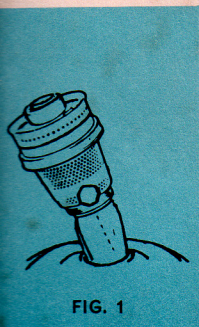
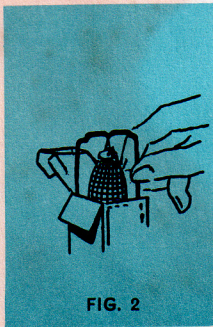
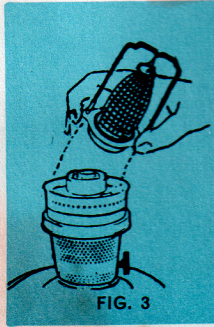

FIG. 1
FIG. 2
FIG. 3
2. Screw burner (156) into container by turning it to the right (Fig. 1). When using lamp with shade, fit shade tripod (117) to gallery (152) as instructed on tripod envelope. The Aladdin Hanging Lamp does not need a tripod if a shade is used.
4. Allow new wick (151) to soak in kerosene for at least one hour before lighting.
5. Read instructions on Loxon mantle (150) box, then remove mantle as directed (Fig. 2). Fit mantle gently to burner gallery by locating small projections on mantle base ring with catches on top of burner gallery and then lock by turning to the right (Fig. 3).